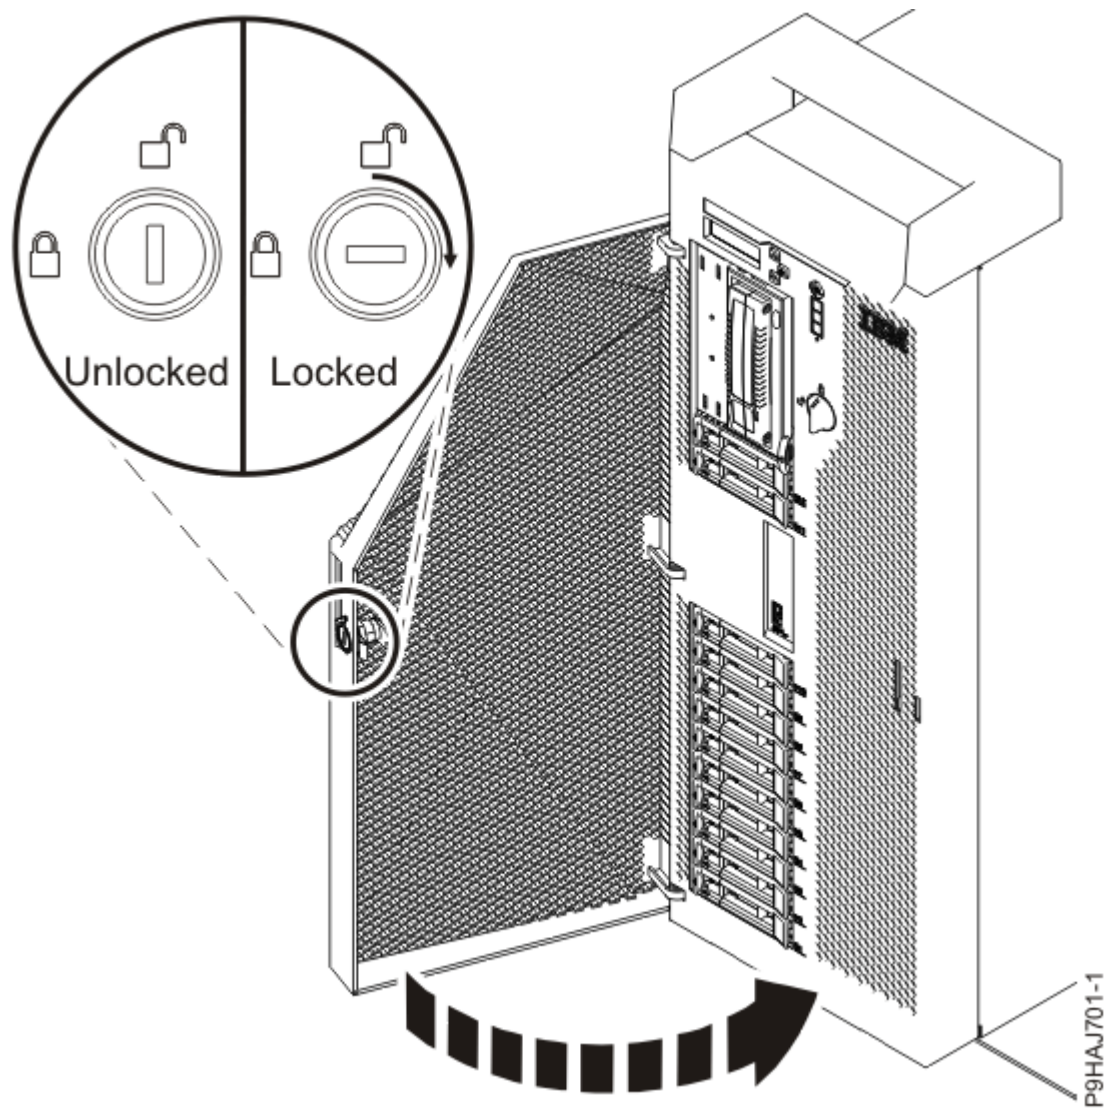

Figure 17. Locking the front door
- e) Close the front door. Insert the front door key into the lock as shown in Figure 17 on page 32. Twist the key to the right (clockwise) to lock the door. Horizontal is locked; vertical is unlocked.